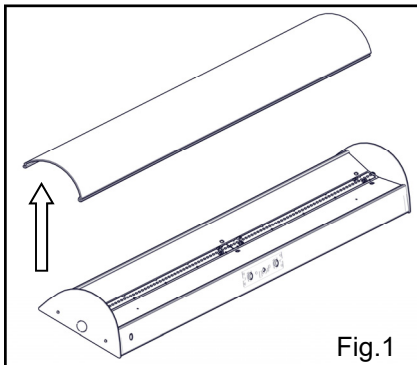

Fig. 1
3. Remove lens from luminaire Fig. 1.